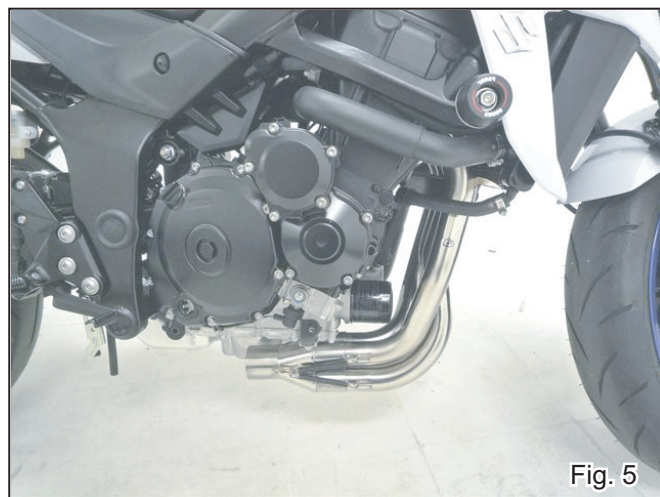

Fig. 5
- 7) Replace exhaust gaskets on all the exhaust ports with new ones and mount Exhaust Pipes assembly which is completed at Step 5 to exhaust ports and fix it with 8 of stock bolt. Tighten bolts by hand only at this stage (See Fig. 5 & 6).